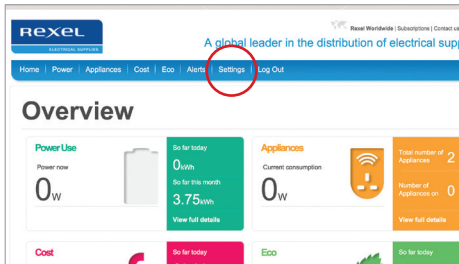

fig.22
2. Click on the Settings tab (fig.22).